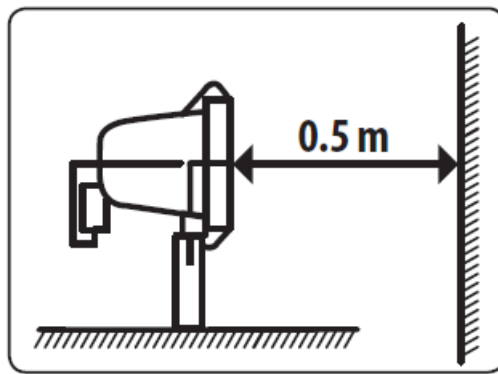

Fig. 2
- Mount the floodlight at a height of 1-3 m above the ground. The direct distance from the illuminated object should be at least 0.5 m (Fig. 2). When the floodlight is mounted in a corner then it must be at least 20 cm away from the ceiling (Fig. 5).